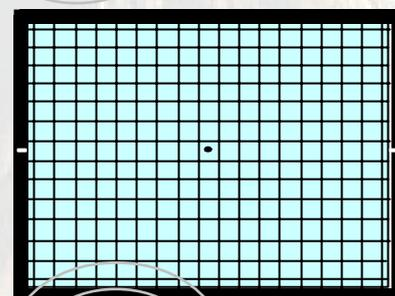

Fig.2-8 NTSC cross hatch
2. Use the [VOLUME +/-] key of the jig remote control and set the value to either 1E, 1F or 20, and confirm that the squares are regular squares. (Fig. 2-8)